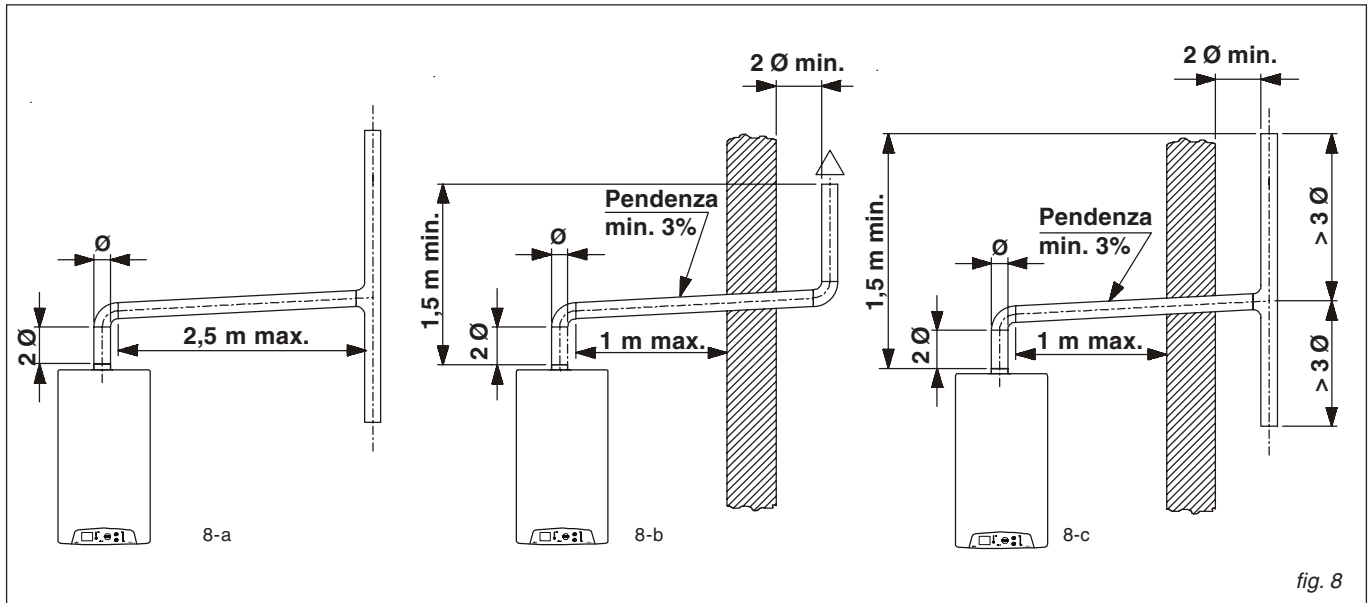

fig. 8
- the draught terminal must overlap the connection to the boiler by at least 1.5 m (see fig. 8).